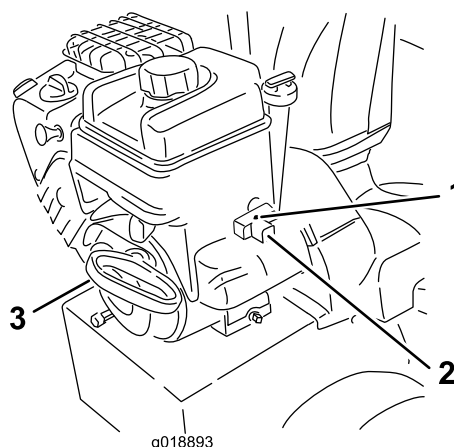

Figure 26
7. Start the machine pulling the recoil starter or pressing the electric-starter button (Figure 26).